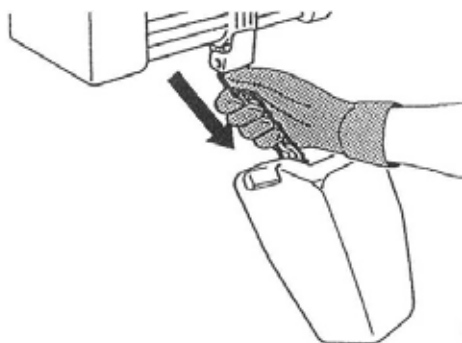

fig.151
20. Insert the chain into the chain collector. (fig.151)